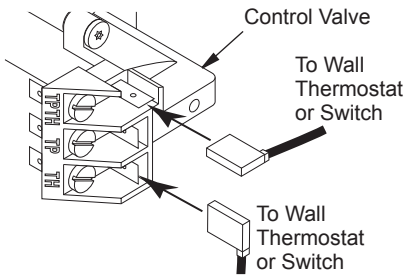

Figure 30 - Connecting Wire Terminals
2. Connect one terminal of 25 ft. wire to the "TH" terminal on the control valve. Connect the other terminal to the "THTP" terminal on the control valve. See Figure 30, page 20.
2. Connect one terminal of 25 ft. wire to the “TH” terminal on the control valve. Connect the other terminal to the “THTP” terminal on the control valve. See Figure 30.